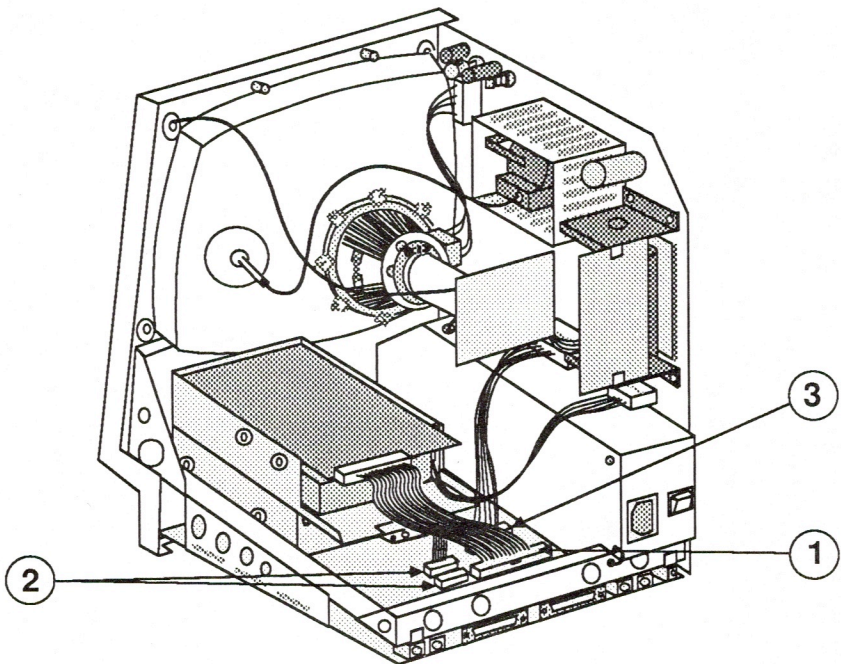

FIGURE 13
- Hard disk drive cable, if present (Figure 13, #1)
- 800K disk drive cable(s) (Figure 13, #2)
- Power supply cable (Figure 13, #3). (You must depress the holding clip on this connector before you can pull it out.)